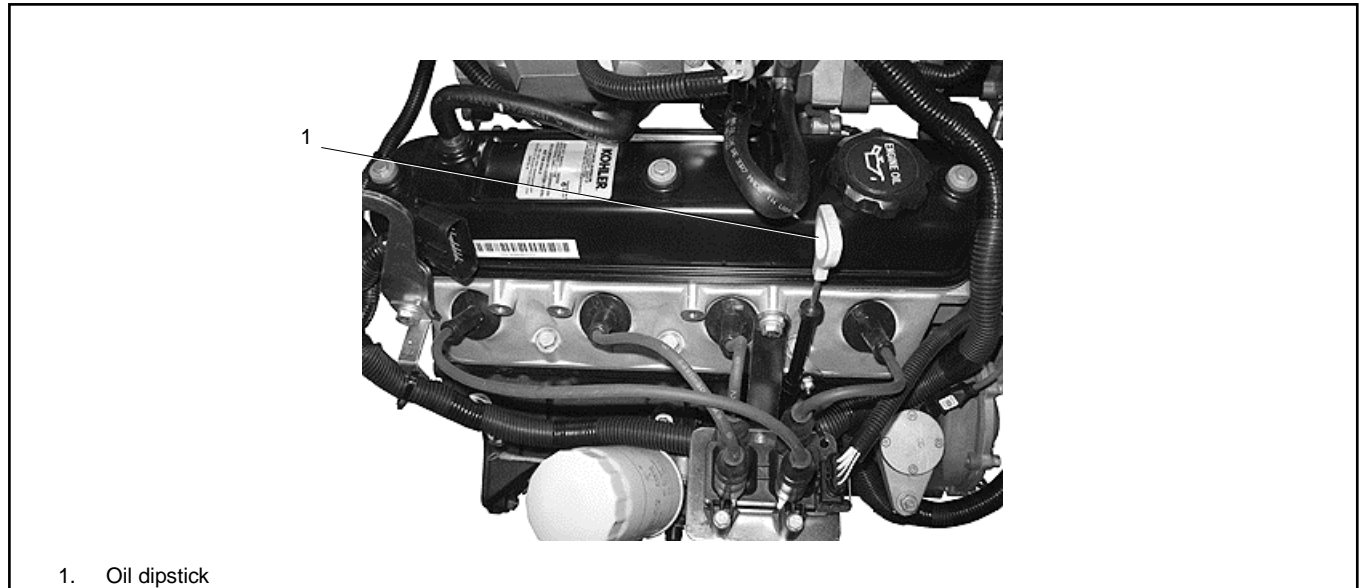

Figure 25 Oil Dipstick Location
2. Pull out the oil dipstick. See Figure 25.